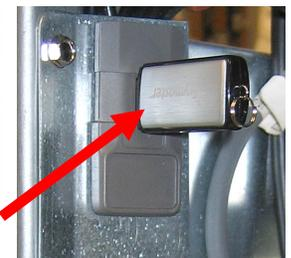

Figure 2
- Insert the USB flash drive (see Figure 2).